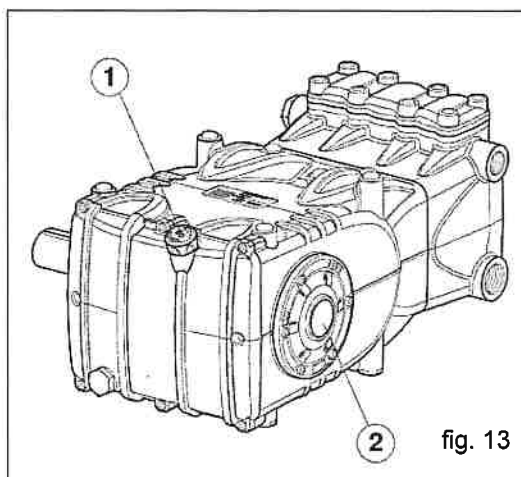

fig. 13
5. The oil level in the pump must be verified using the apposite dipsticks (position 1 fig. 13), and exceptionally by means of the oil sight glass (position 2 fig. 13).